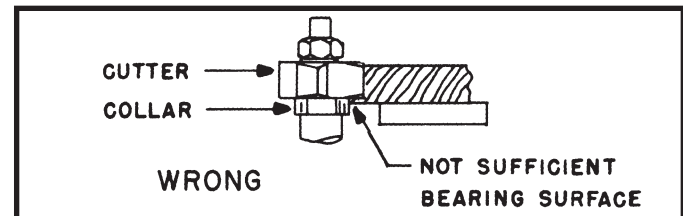
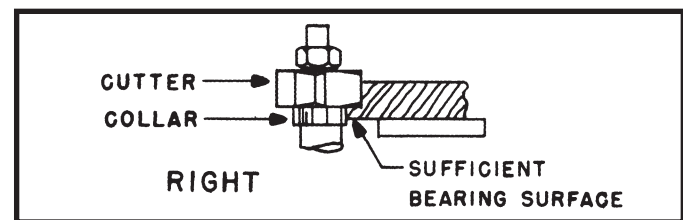
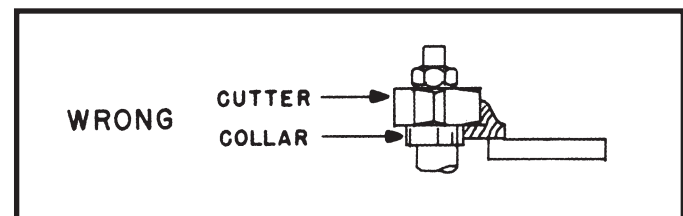

Fig. 34
Fig. 35
Fig. 37
3. A portion of the edge of the work **MUST** remain untouched by the cutters in order for the collar to have sufficient bearing surface. The wrong method is shown in Fig. 34, while Fig. 35 illustrates the right method.
4. The work **MUST** be fairly heavy in proportion to the cut being made (Fig. 35). Under **NO** circumstances should short work of light body be shaped against the collars (Fig. 37).
2. When the collar is used below the cutter (Fig. 35), the operator can see the progress of the cut. **NOTE:** Any accidental lifting of the work will gouge the wood and ruin the workpiece.